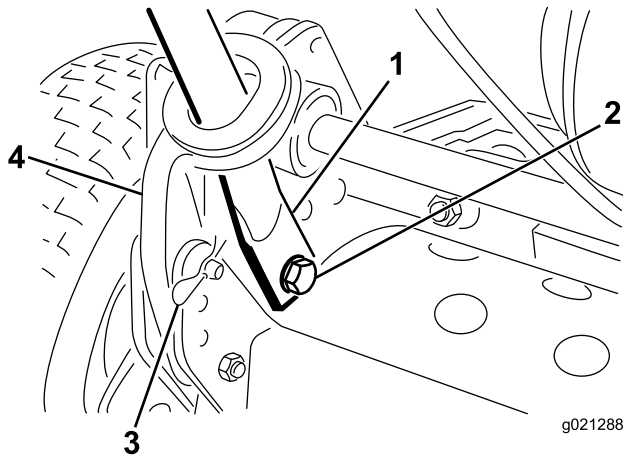

Figure 3
4. Squeeze the handle ends inward and install them on the mounting pins (Figure 3).
5. Secure the handle ends to the mounting pins with the bolts, washers, and lockwashers previously removed (Figure 3).
6. Secure the handle arms to the rear of the frame with the hairpin cotters and ring pins previously removed (Figure 3).